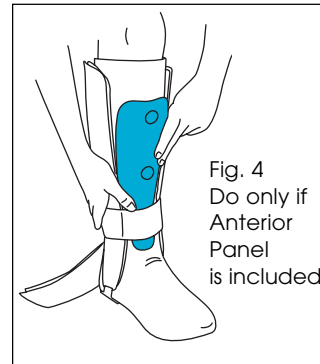

Fig. 4
- Slide tip of panel under bottom strap and panel edges under brace sides (Fig. 4).